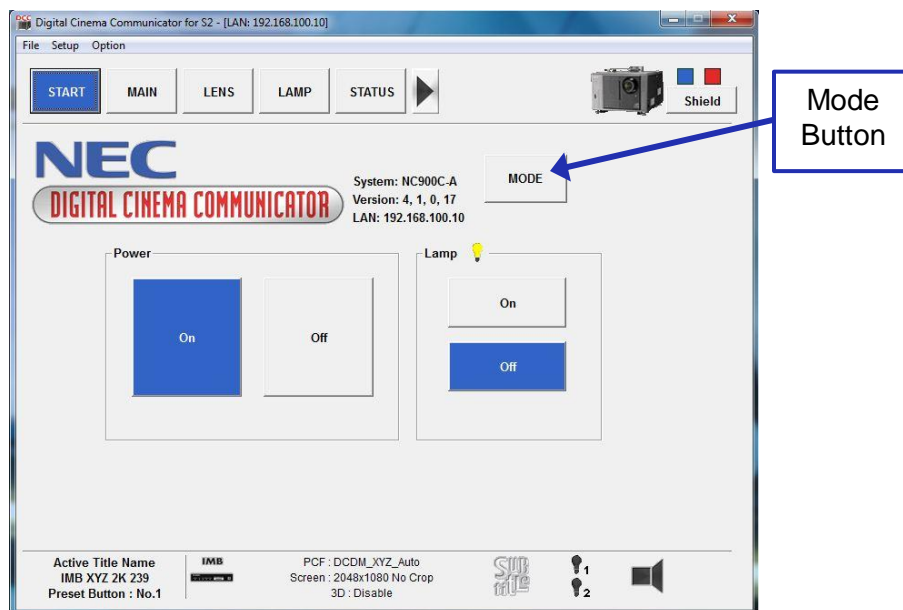

Figure 32: Mode Button
- On the window that appears, click on the Mode button (Figure 32).